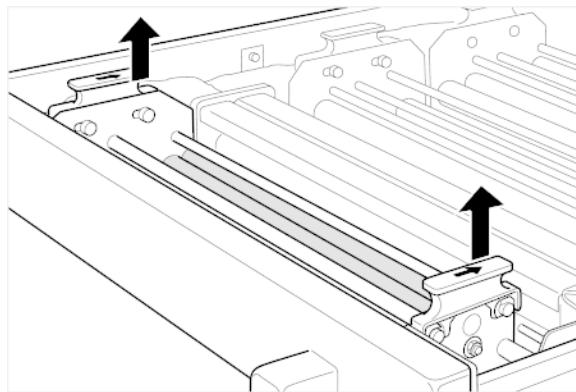

Fig. 2
- Remove the upper racks by lifting them up by the handles on the sides (fig. 2).